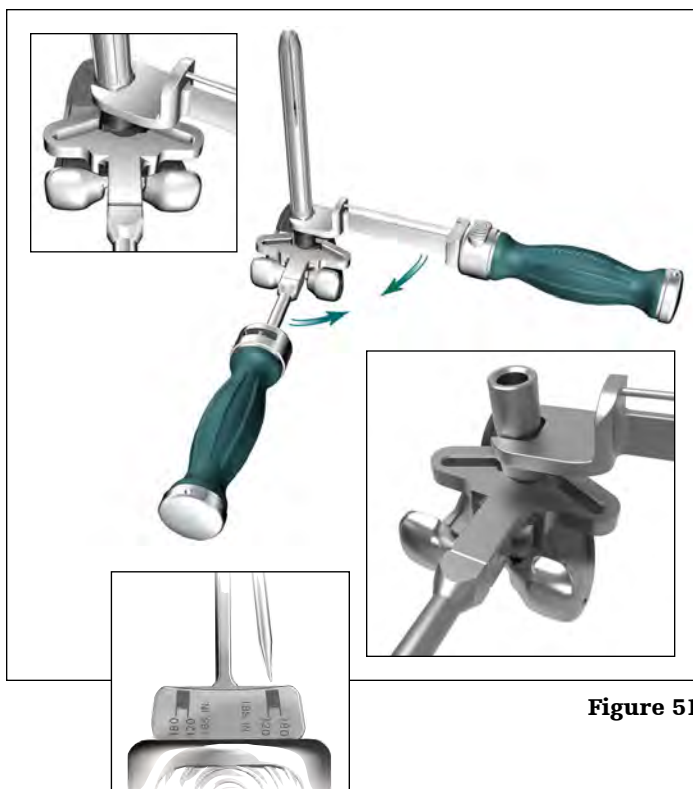

Figure 51
- Torque Stem to 120 in-lbs as indicated on the Universal Torque Wrench (**Figure 51**).